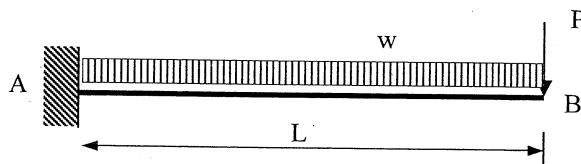

Figure 4(a)
- (c) A propped cantilever beam AB is loaded with a **uniformly distributed load**  $w$  per unit length as shown in Figure 4(b). Using **Castigliano's second theorem**, determine the vertical reaction at support B.